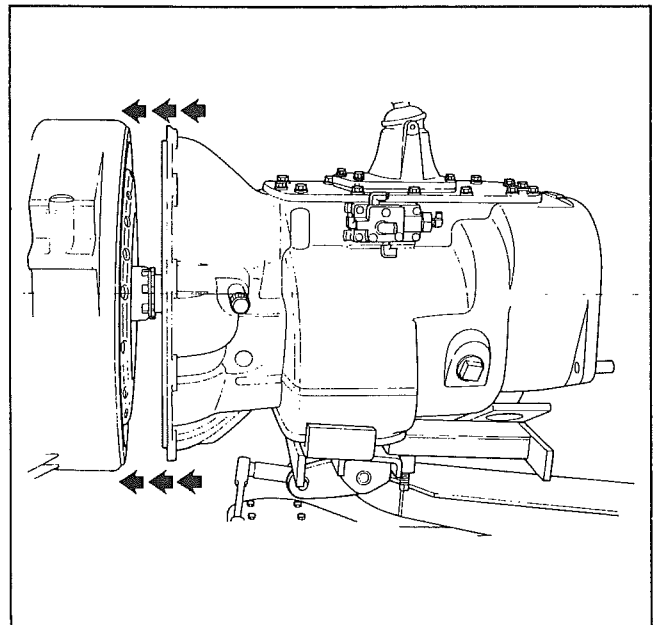

Figure 10-14. Aligning Transmission for Installation
4. Adjust the transmission position so that the input shaft can just enter the rear end of the clutch release bearing. Adjust the transmission support so the transmission is as close as possible to perfect alignment with the engine crankshaft centerline (Fig. 10-14).